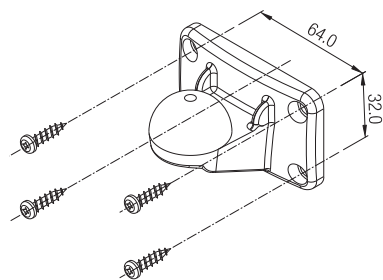

Fig. 1.
1. Screw the Mounting Bracket to the wall or partition with screws (Refer Fig.1).